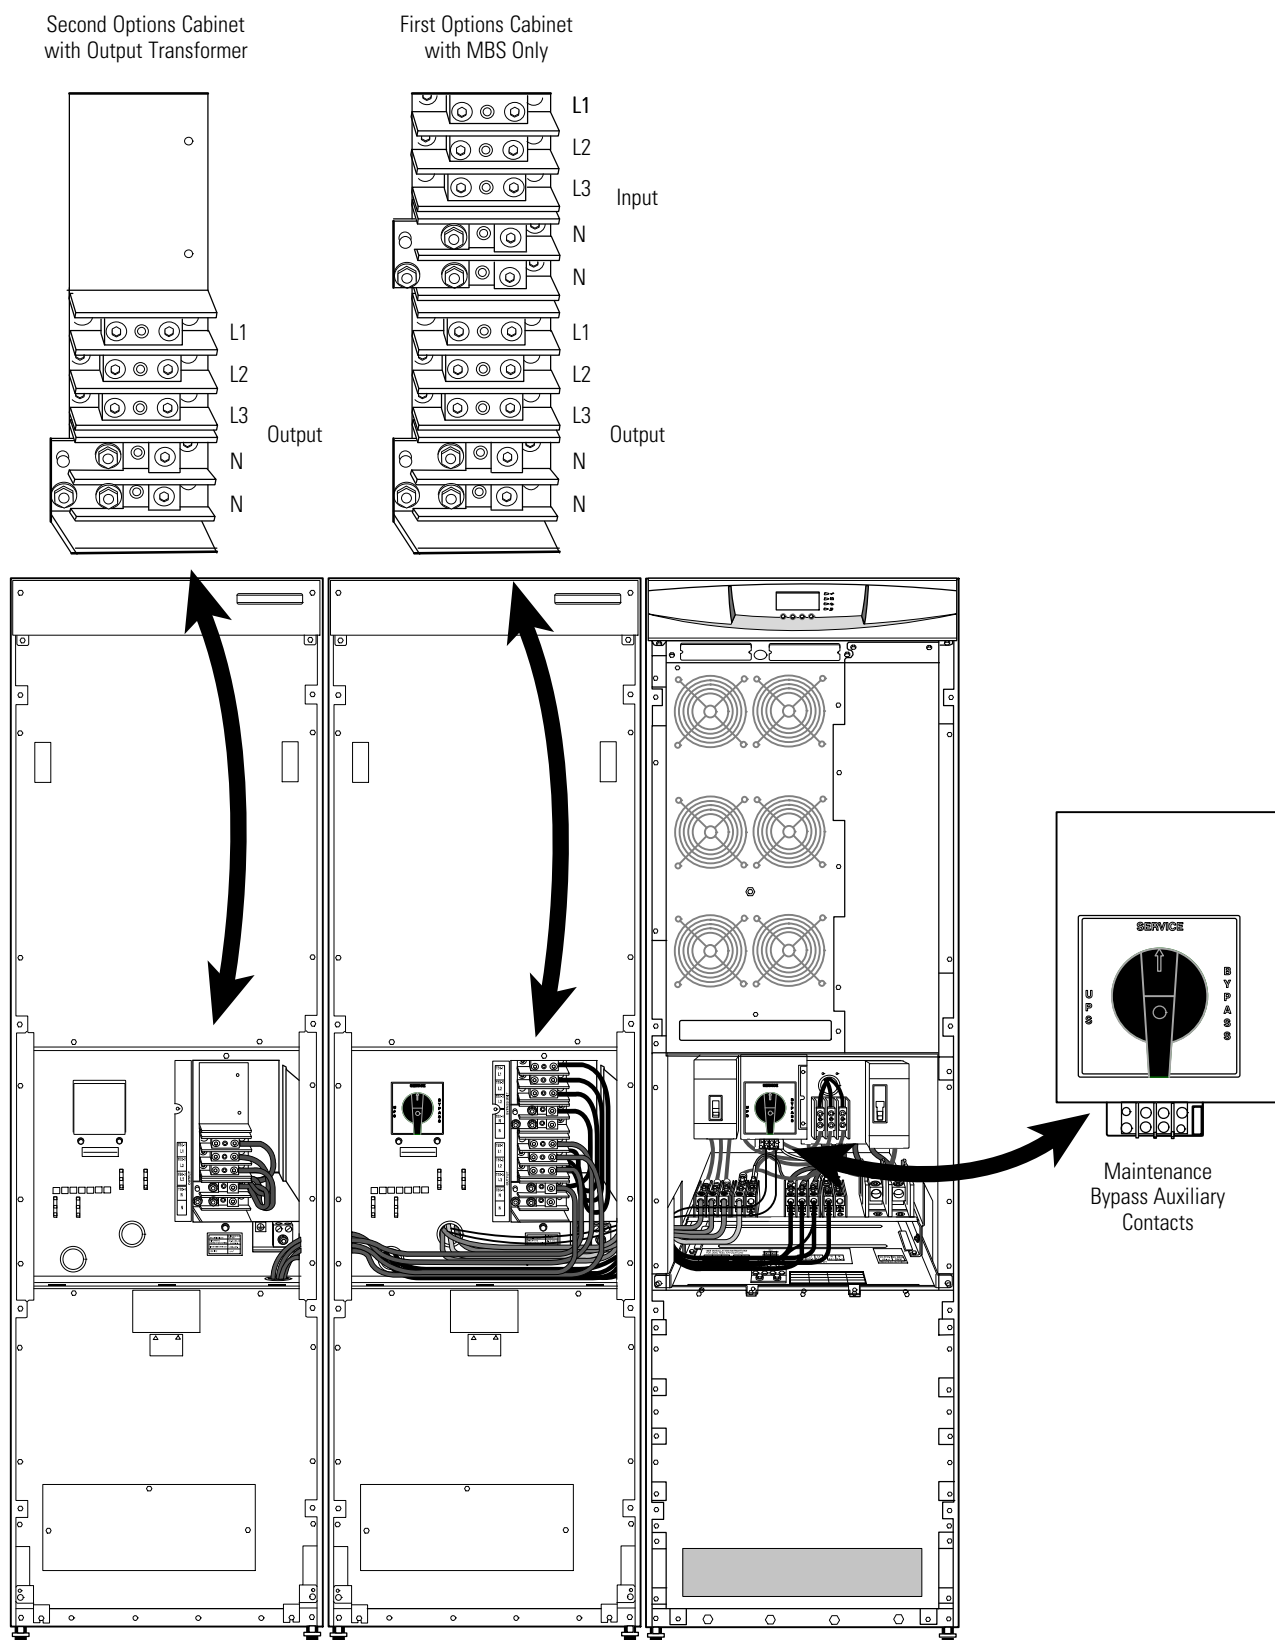

Figure 22. Options Cabinets with Output Transformer Wiring
For a detailed view of both Options Cabinet terminal blocks, see Figure 22.
6. On the first Options Cabinet, route the maintenance bypass auxiliary wiring through the knockouts to the UPS and wire to the contacts below the MBS (see Figure 22).